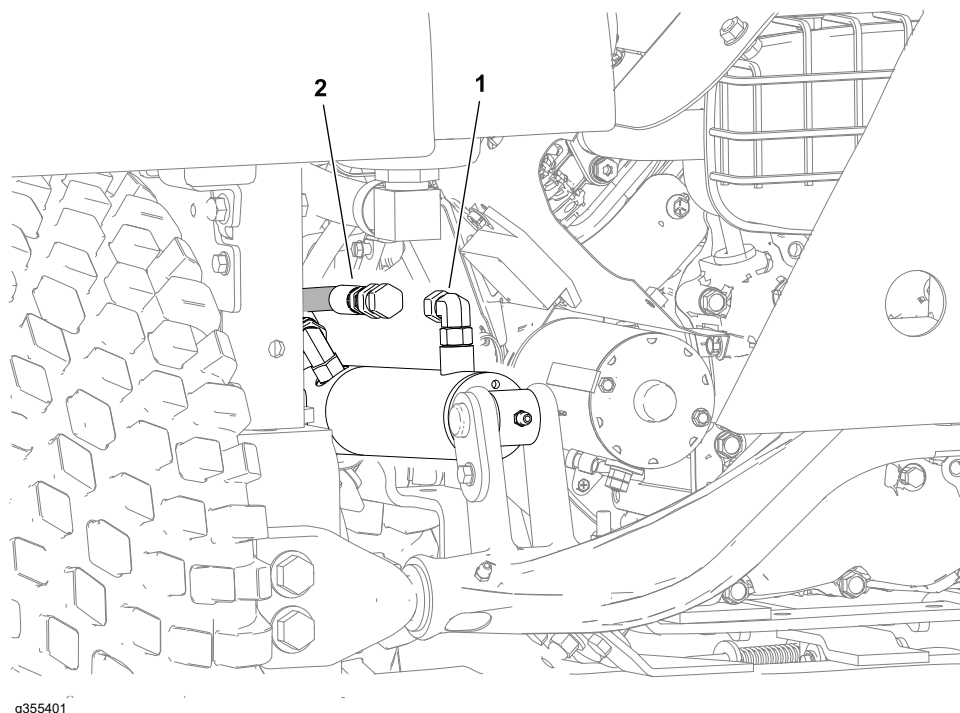

Figure 43
3. Clean and disconnect the hydraulic hose and fitting at the rod end of the lift cylinder; refer to Figure 43.